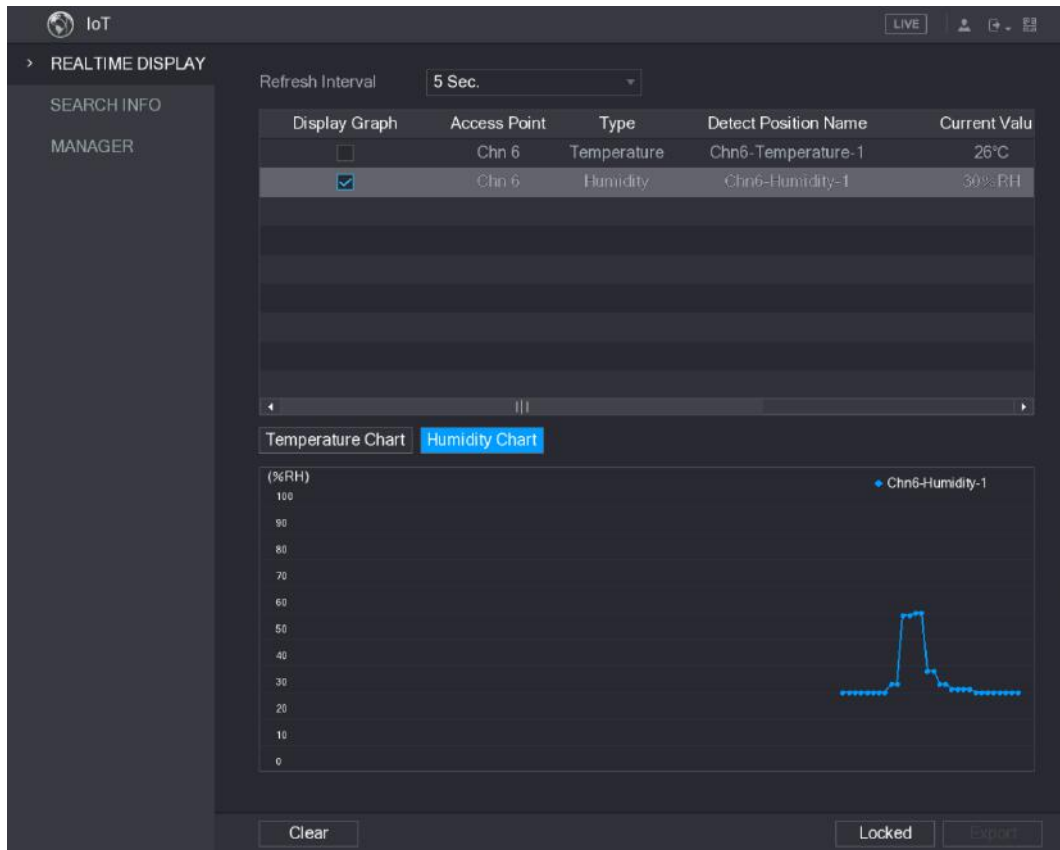

Figure 5-174
Step 2 On the **Realtime Display** interface, click the **Humidity** tab. See Figure 5-174.